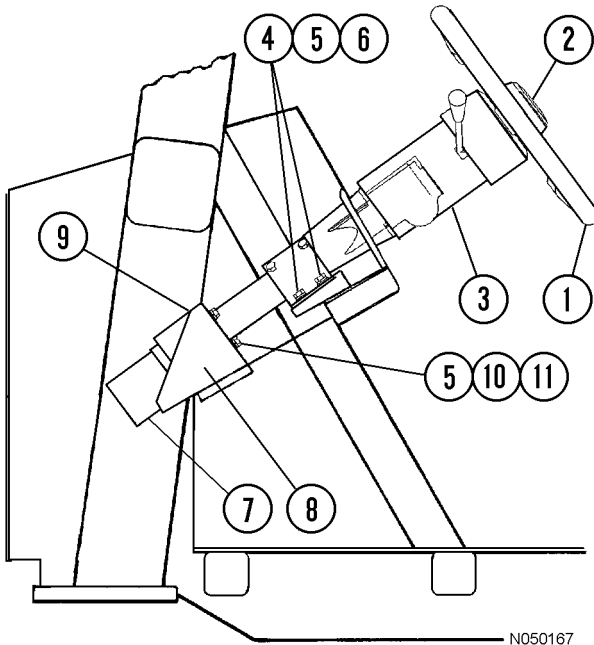

FIGURE 5-1. STEERING CONTROL UNIT
4. Remove four mounting capscrews (10, Figure 5-1), flat washers and lockwashers. Remove steering control unit (7).
2. Move the steering control unit into position and align it with the steering column shaft splines. Secure the steering control unit in place using four mounting capscrews (10, Figure 5-1), flat washers and lockwashers.